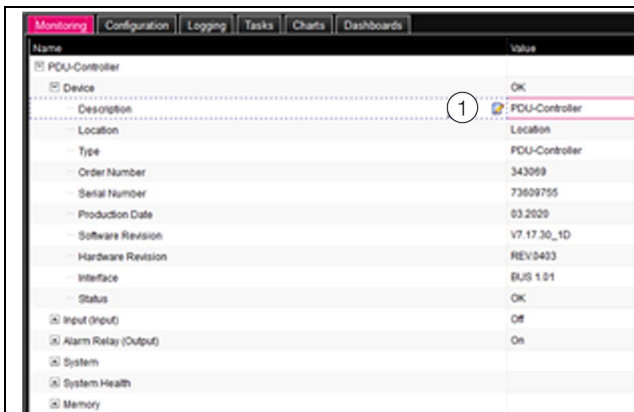

Fig. 26: Editable parameter with "Edit" symbol
For all parameters that can be changed, an "Edit" symbol in the form of a stylised notepad and pen will appear after the respective parameter if the mouse pointer is placed in the relevant line (fig. 26, item 1).